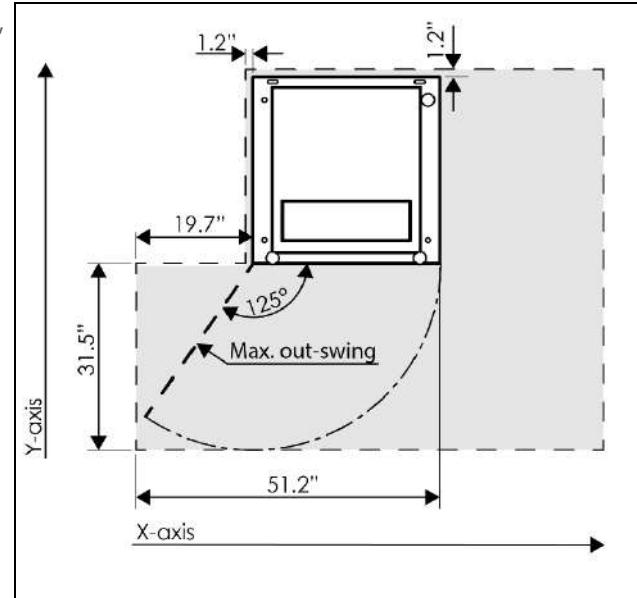

Figure 12: Top view EVSE cabinet - door clearance
See Figure 12.
- The door swing shall not be blocked, additional clearance space may be required. See Figure 12.